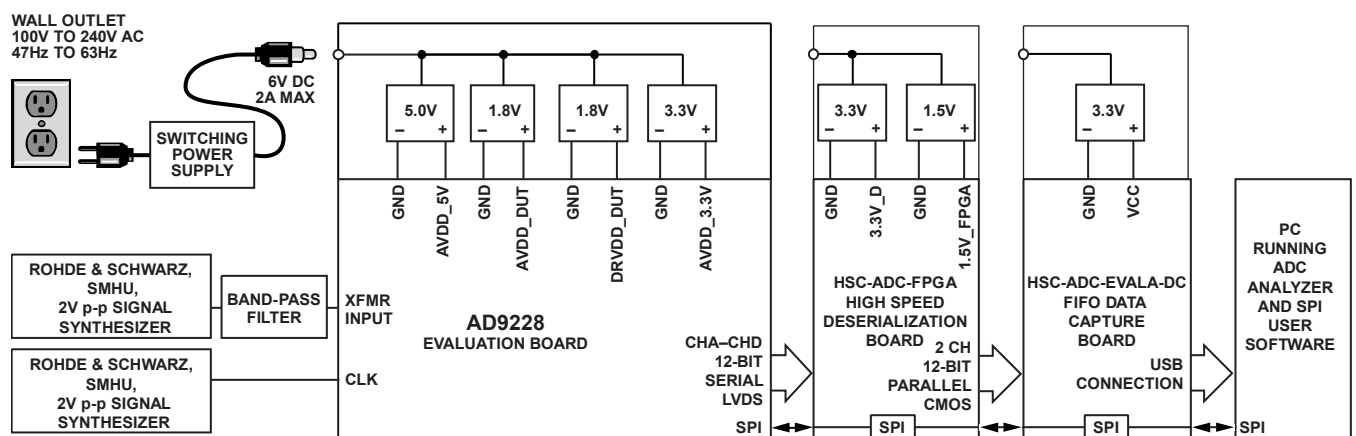
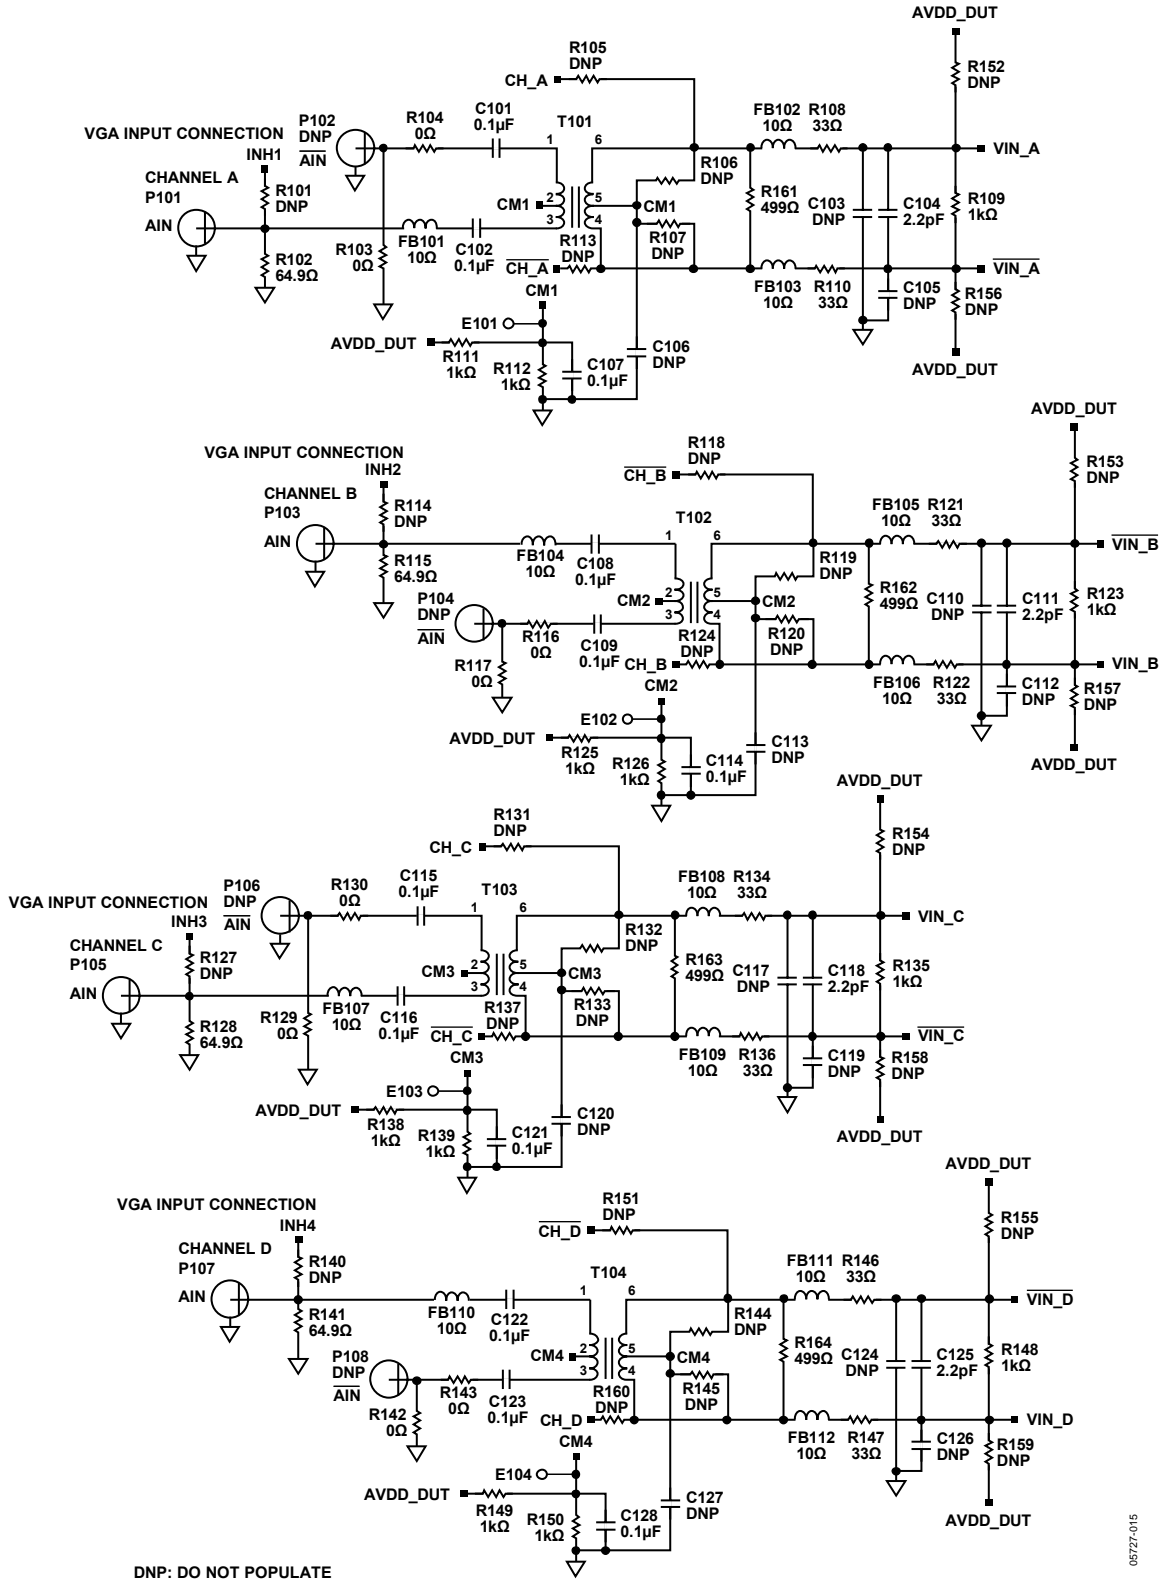
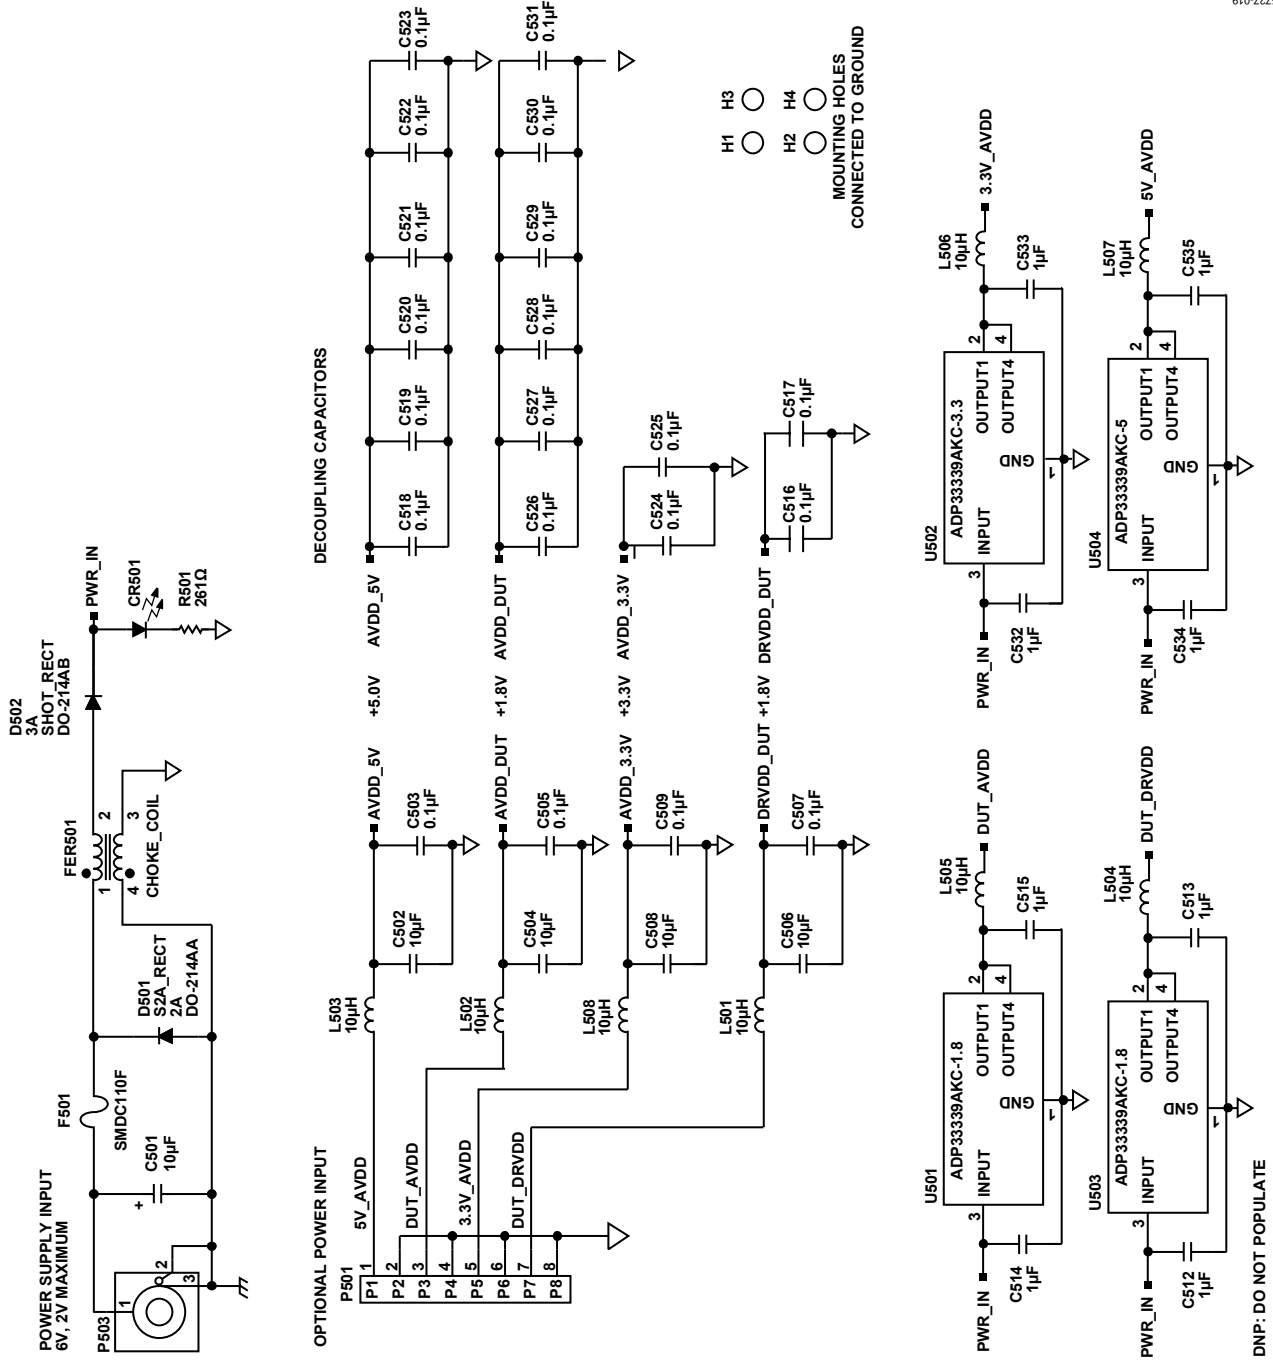

Figure 70. Evaluation Board Connection
Figure 72. Evaluation Board Schematic, DUT Analog Inputs
Figure 76. Evaluation Board Schematic, Power Supply Inputs
The AD9228 evaluation board provides all of the support circuitry required to operate the ADC in its various modes and configurations. The converter can be driven differentially through a transformer (default) or through the AD8332 driver. The ADC can also be driven in a single-ended fashion. Separate power pins are provided to isolate the DUT from the AD8332 drive circuitry. Each input configuration can be selected by proper connection of various jumpers (see Figure 72 to Figure 76). Figure 70 shows the typical bench characterization setup used to evaluate the ac performance of the AD9228. It is critical that the signal sources used for the analog input and clock have very low phase noise (<1 ps rms jitter) to realize the optimum performance of the converter. Proper filtering of the analog input signal to remove harmonics and lower the integrated or broadband noise at the input is also necessary to achieve the specified noise performance.
See Figure 72 to Figure 80 for the complete schematics and layout diagrams that demonstrate the routing and grounding techniques that should be applied at the system level.
- **D+, D-:** If an alternative data capture method to the setup described in Figure 72 is used, optional receiver terminations, R206 to R211, can be installed next to the high speed back-plane connector.